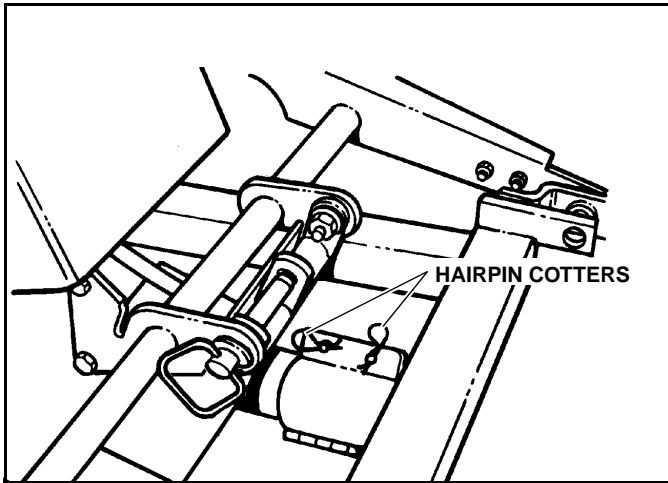

Figure 1-4
5. Install the Hairpin Cotters Into the Pivot Pins. (See Figure 1-4)